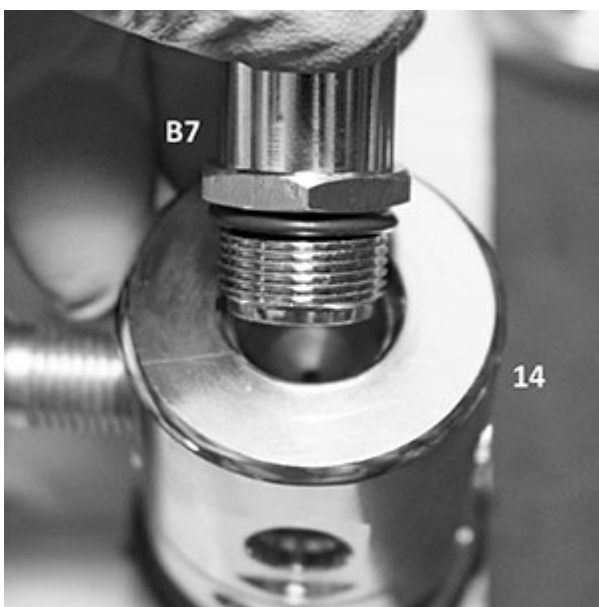
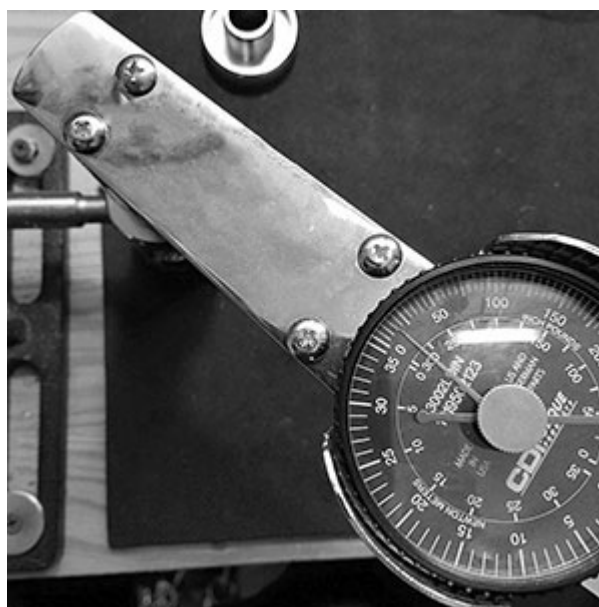

Fig. 36
Fig. 37
11. Clamp the regulator with the air inlet side up in the vise using the first stage handle. Screw the DIN Housing into the Upper Body - Fig. 36, and torque this to 260 in-lbs/300 kgf-cm/30 N·m - Fig. 37.